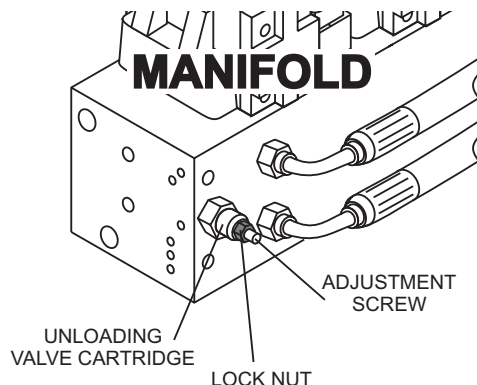

Figure 50. Unloading Valve Cartridge Adjustment
2. Loosen the lock nut on the **unloading valve cartridge** (Figure 50) and using an allen wrench, turn the adjusting screw **clockwise** until it is completely closed.